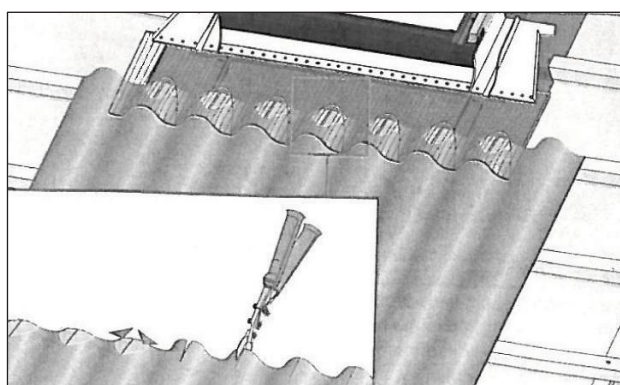

Fig 17
- 26) (See Fig 17) You will need to chamfer the top of the bottom sheet of iron, where the mat laps over the iron, to allow the mat to sit flat on the iron cut top of iron profile and fold down. NOTE: It is important to do this, to prevent creating a water catchment area. Ensure there are no jagged edges that may rip the mat.